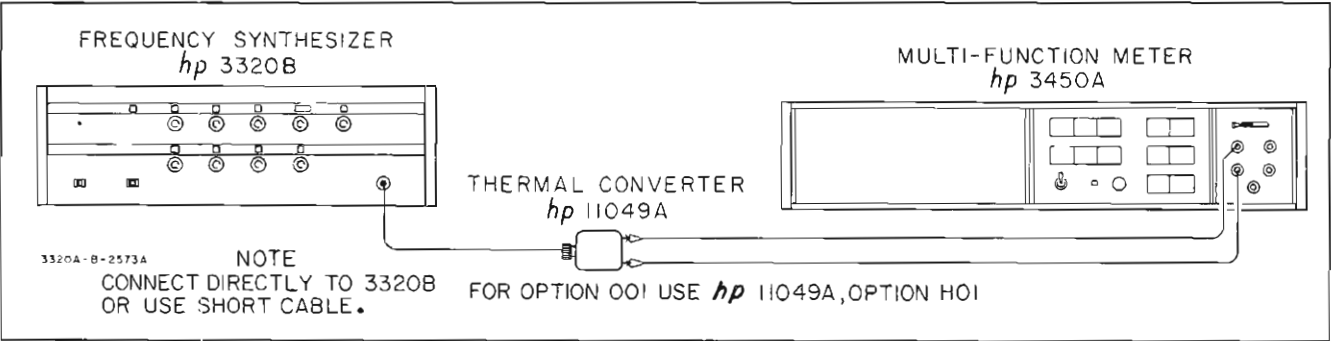

Figure 5-5. 3320B Frequency Response (10 Hz - 13 MHz).
- b. Connect the equipment as shown in Figure 5-5.